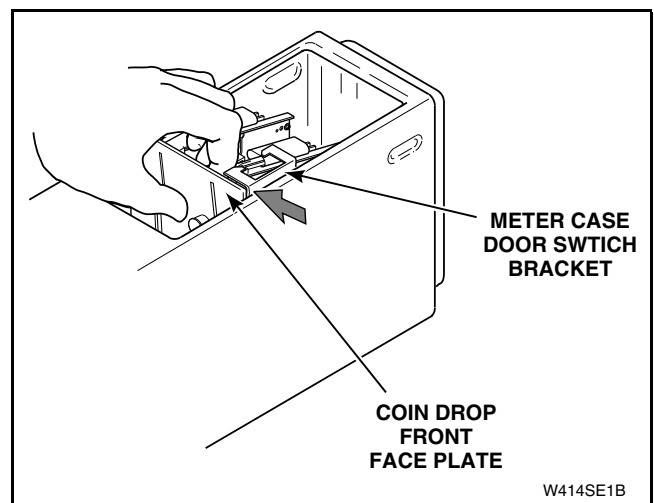

Figure 17
- m. Carefully pull front of coin drop up and forward, so the drop's front face plate clears the meter case's door switch bracket. Refer to *Figure 17*.
- o. Grasp top of coin drop front face plate between the two drops. Refer to *Figure 17*.